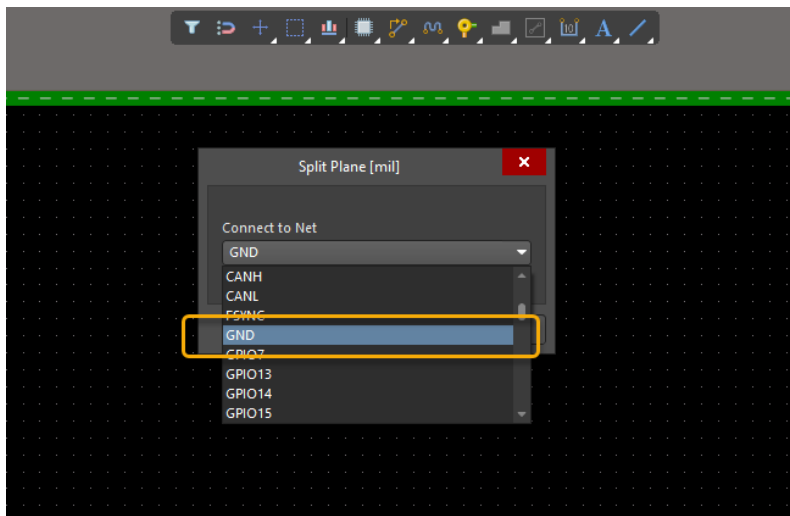

Figure 1. Changing the Power Plane net to GND
9. Double-click in the board area to open the *Split Plane* dialogue that appears in Figure 1. Assign the net **GND** to the Power Plane and click **OK**.